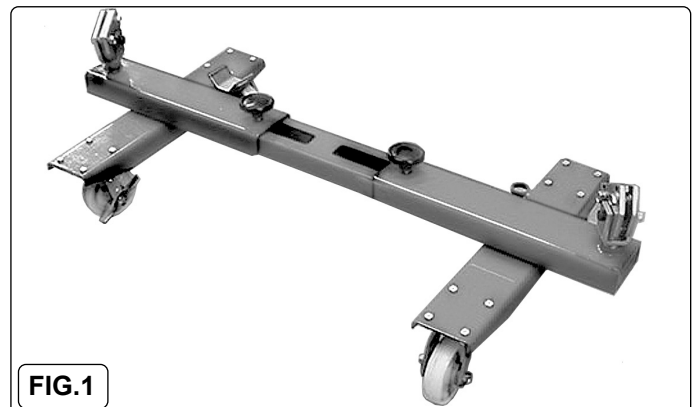

FIG.1
- 4.2. Remove extension arm (fig1.C) from main beam undoing knob (A) and lifting arm off.